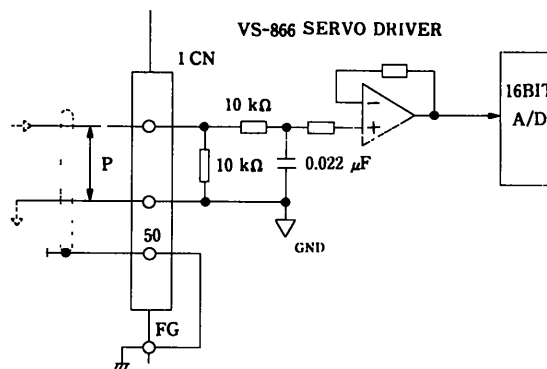

Fig. 6.3 Input Interface Circuit (Command Input)
- (1) Use twisted pair shielded wire for input signals and securely connect the shielded wire to pin 50 of 1CN.
- (2) The maximum rating of input signals is $\pm 15V$. Design the system so that this voltage is not exceeded under any conditions.
- (3) The input impedance is $10k\Omega$.
- (4) Fig. 6.3 and Table 6.2 show the input circuit and signal description.